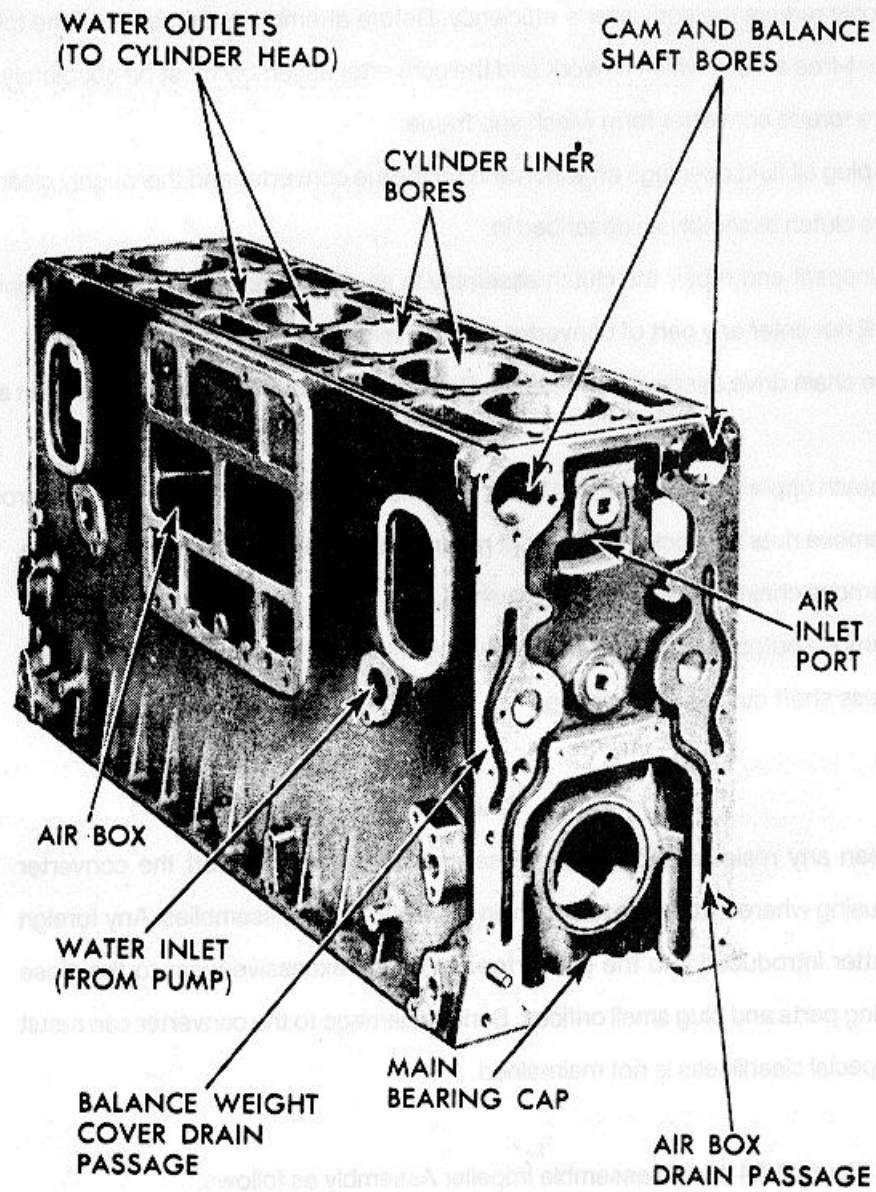

Figure 6-33. Cylinder Block and End Plates.
(1) Apply thin coat of non-hardening gasket cement to both sides of endplate gaskets (Figure 6-33).
(2) Use a good grade of sealing compound on threads of all plugs before installation.
(3) Install gaskets and plugs.
(4) Install all interior sub-assemblies.
(5) Install endplates.
(6) Remove engine from overhaul stand with suitable hoist.